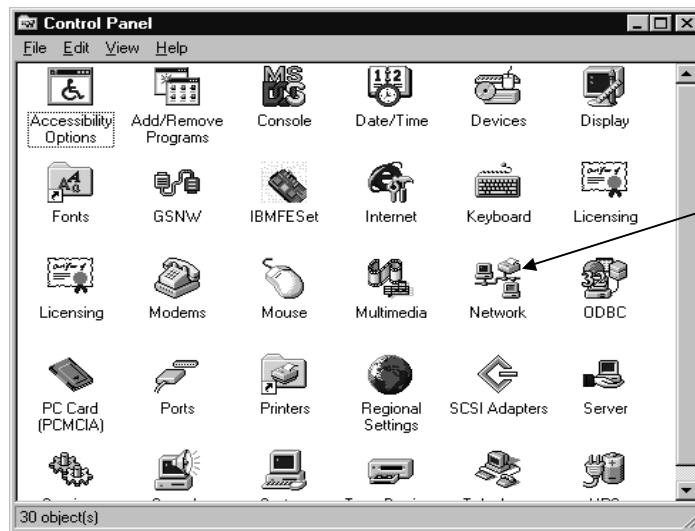

Figure 5-11. Invoking Network Configuration
1. From the Windows NT Control Panel invoke Network configuration (Figure 5-11).